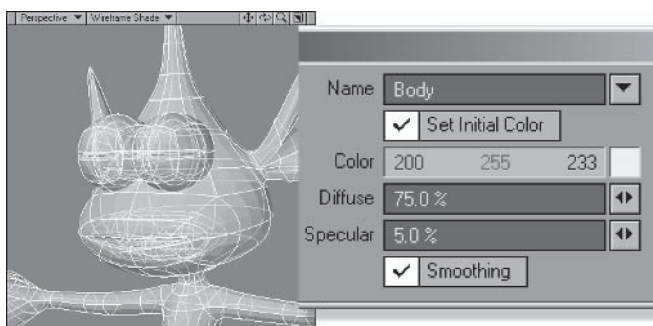

Figure 3.4-1. Use these settings for the Body surface.
1. In the Perspective view, select a polygon on the body and one on each eyelid, then **Select Connected** (I) to select all the polygons of the body and eyelids. **Change Surface** (q). In the Change Surface panel, change Name to **Body**, and copy the other settings from Figure 3.4-1.